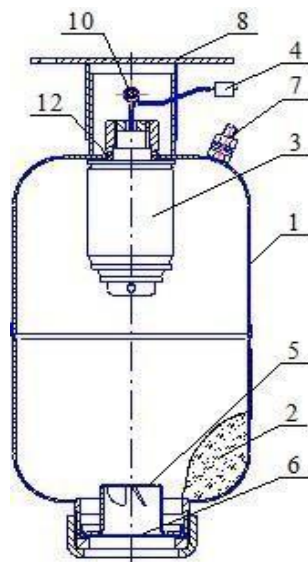
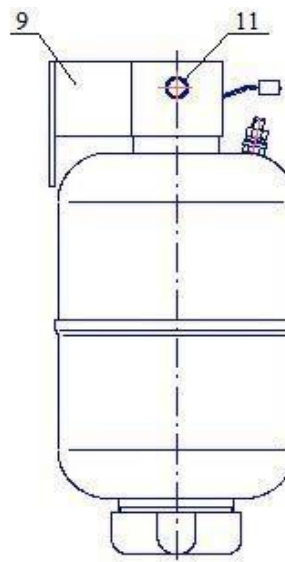
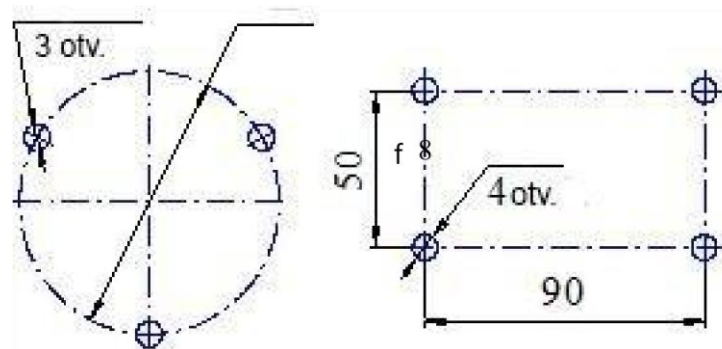
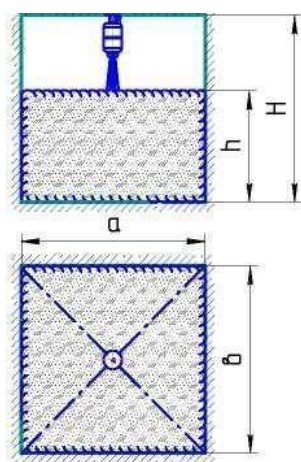

Figure 1
Figure 2
Figure 3
Figure 4
4.1 MPH (Figure 1. and Figure 2.) consists of the pressure body 1, which includes: extinguishing powder (HP) 2 and cold gas generator (GSP) 3 with electric fuse 4. On the other side of the hood is the atomizer insert 5, as well as the outlet, which closes with a membrane 6. The module is equipped with a grounding terminal 7. The upper part of the MPH is equipped with a holder for the ceiling 8., or for the wall 9.
4.3 After receipt of an electrical impulse to the electrical output switch 4GSP 3 (Figure 1,2), the gas generator is activated and generates a cold gas that puts the interior of the container under pressure. As soon as the necessary pressure is present, the membrane opens 6 and the extinguishing powder comes out of the module through the atomizer 5.
6.2 Suspension 8 can be mounted under the ceiling (Figure 1) or suspension 9 (Figure 2) can be attached to the wall. Please mark the places for attaching the suspension as on the (Figure 3) and on the wall acc. (Figure 4).
6.6 The configuration of the powder propagation and the representation of the erasing surfaces shown in the following figures 4, 5 and tables 2 and 3.